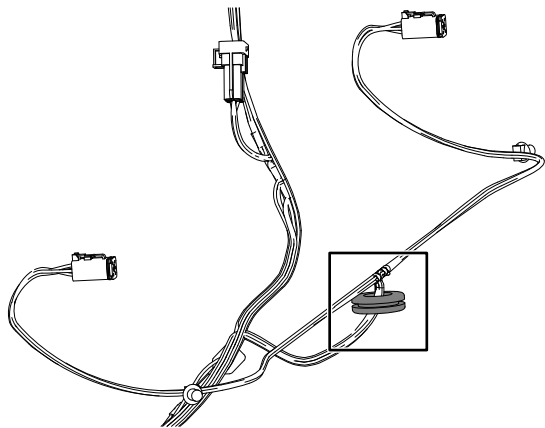

Figure 9
move the grommet toward the 112 cm (44 inches) wire harness branch (Figure 9).
3. Position the grommet as shown in Figure 9.